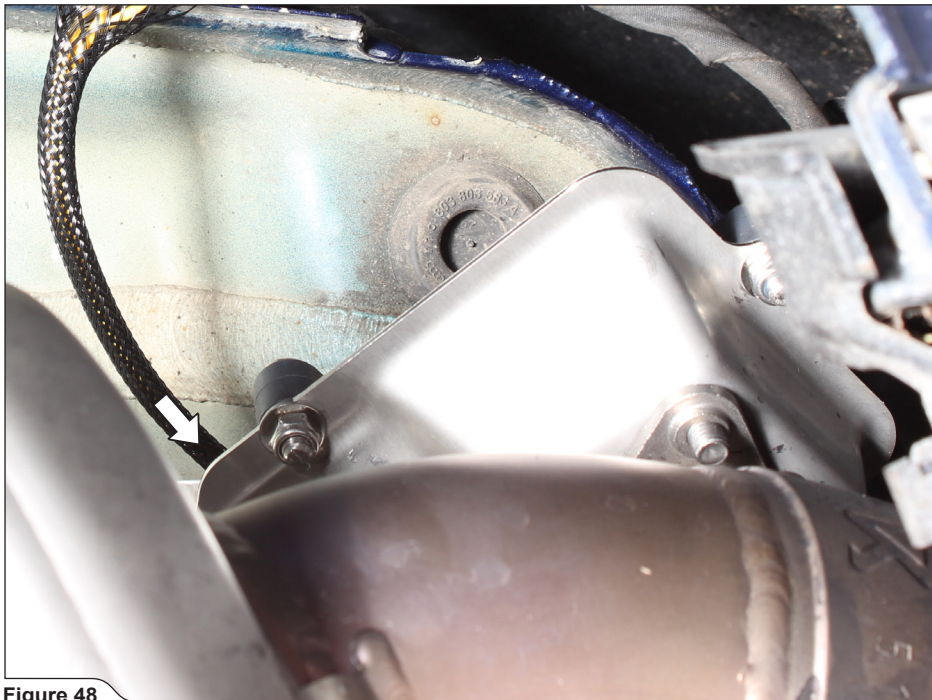

Figure 48
14. Connect the exhaust valve actuators on both sides of the vehicle (**Figure 48**).